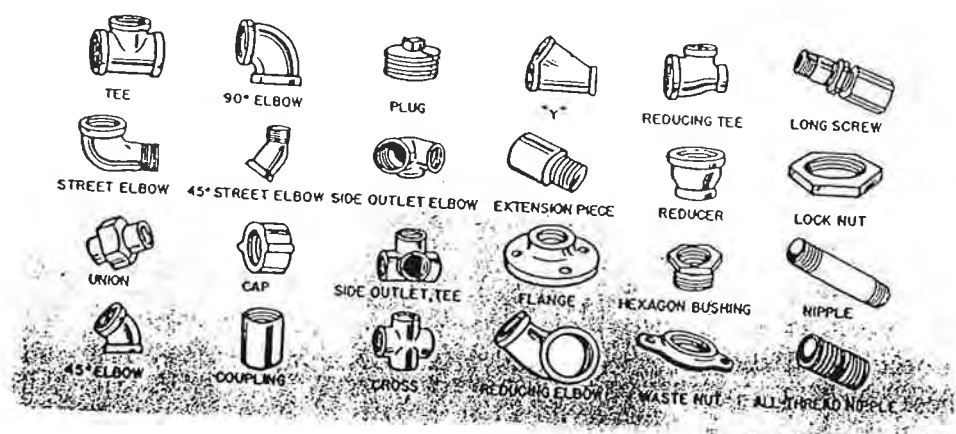

Fig. 6-4. Common threaded pipe fittings.
6.13 These fittings are shown in Fig. 6-4. In this drawing the fittings are threaded. But threading is only one of several ways to connect fittings to
pipe. For the text that follows, use Fig. 6-4 and the discussion will be easy to follow.
6.14 The tee fitting in Fig. 6-4 (top left) permits flow at right angles to the main flow. The main flow passes through the straight "run" of the tee. The 90° outlet is referred to as the "branch" of the tee. In a STRAIGHT TEE all three outlets, the run as well as the branch, are the same size. In a REDUCING TEE, the branch outlet is smaller than the run outlets, thus reducing the flow of material through that section of the system. The function of a cross is to provide 90° outlets opposite each other. All four outlets in a STRAIGHT CROSS are equal in dimension. In a REDUCING CROSS the two branch outlets are smaller than the run outlets, again to obtain the desired material flow and pressure through the system. At top center of Fig. 6-4 a lateral or Y-fitting, which amounts to a fork in the road, is shown.
6.15 The function of a REDUCER is to reduce a line to a smaller pipe size. One reason for doing so is to increase flow pressure in a piping system. Another is to reduce the volume of fluid. This is the same principle used in supplying water to a house or building from a water main, and for distributing the water within the building. At least one face of the fitting matches the large pipe. One or more other faces match the smaller pipe. Any of the fittings just described can be obtained as reducers. Many such fittings are shown in Fig. 6-4. Study the figure until you have identified all of the fittings as to type. Then look carefully to see which outlets are reduced. Reducing can also be accomplished by means of a BUSHING inserted into a fitting.